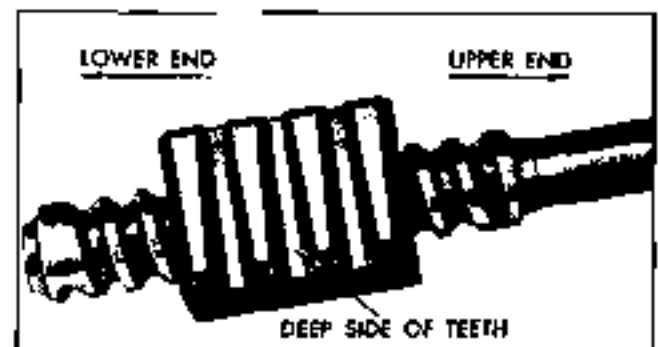

Fig. 9-52 Ball Nut Properly Installed on Shaft
1. Position ball nut on shaft so that deep side of teeth are located as shown in Fig. 9-52